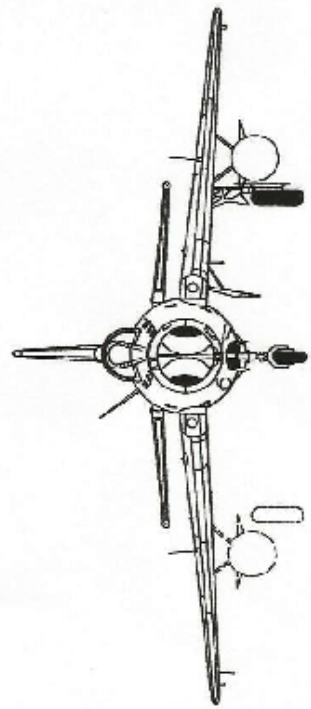

Figure 1 : Foil Map for Fuselage Assembly
- Create ‘**foil map**’ (Fig. 1) to define area covered and application sequence for individual foil sections. This is a balance of: